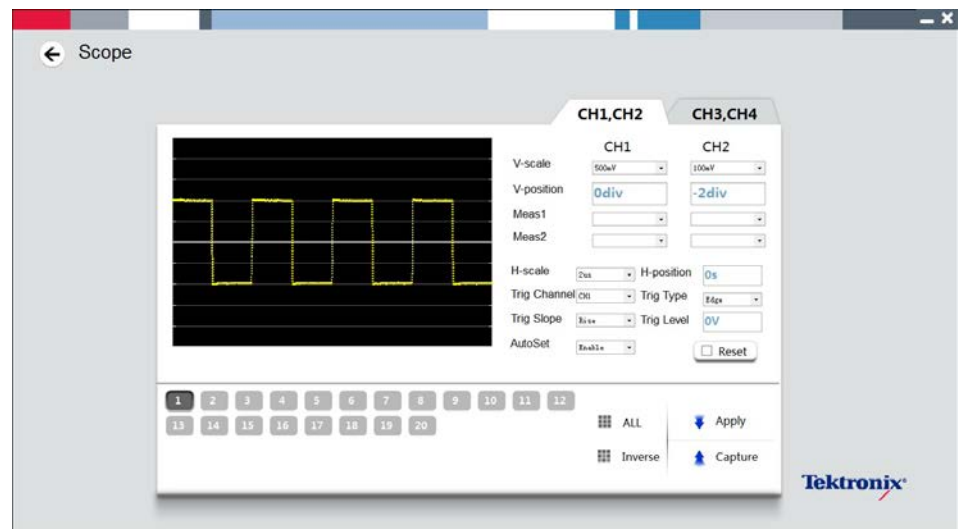

Figure 7: Oscilloscope configuration interface (configured)
1. On the oscilloscope configuration interface, the waveform is displayed only after the instrument of a bench is configured (see Figure 7).